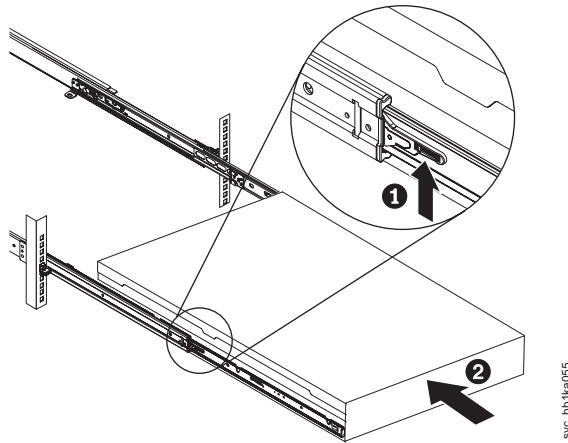

Figure 25. Raising the SAN Volume Controller 2145-CF8 or 2145-CG8 locking levers of the slide rails of the rack
8. Lift the locking levers ( **1** in Figure 25) on the slide rails and push the server **2** all the way into the rack until it clicks into place.